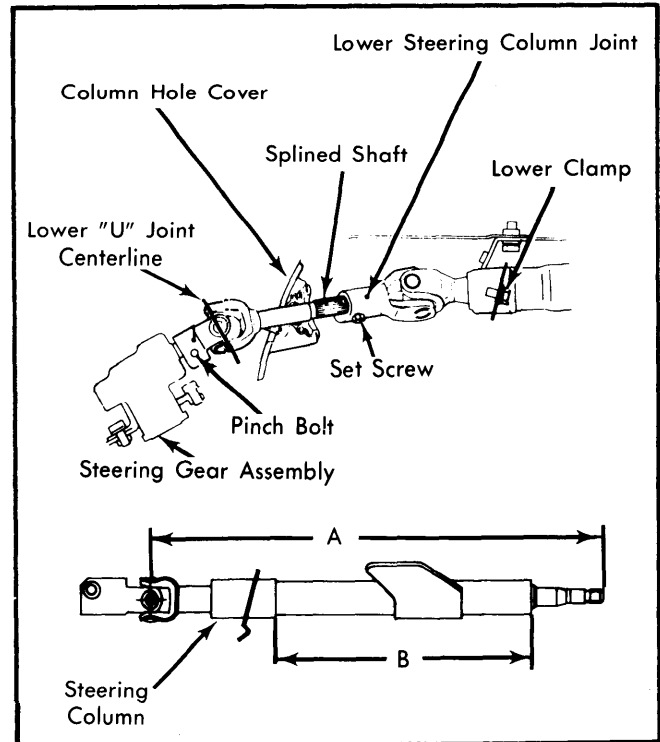

Fig. 1 Datsun 310 Steering Column Assembly
3) If vehicle has been involved in a collision, check steering column dimensions "A" and "B". Fig. 1. Dimension "A" should be 24.04-24.16" (610.7-613.7 mm) for vehicles with manual steering; with power steering dimension "A" should be 24.48-24.60" (621.9-624.9 mm).